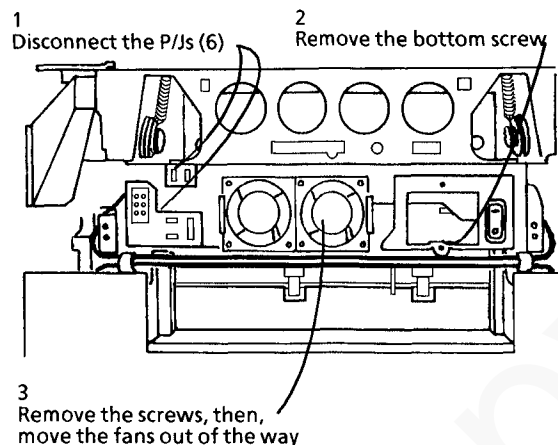

Figure 2. Preparing to Remove the Interlock Assembly
8. Prepare to remove the Interlock Assembly (Figure 2).